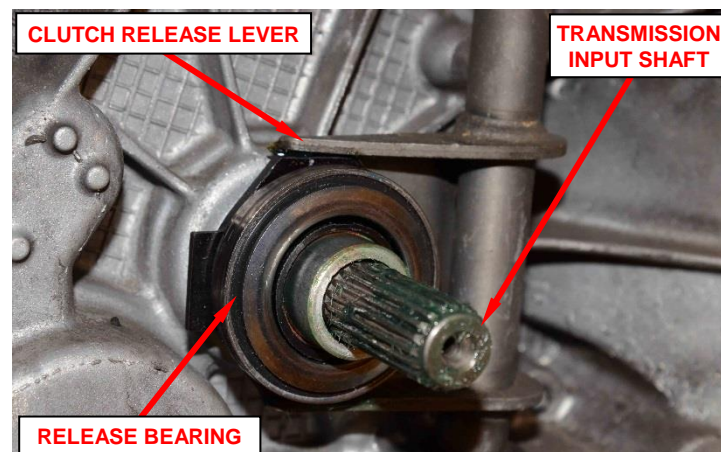

Figure 68 – New Clutch Release Bearing
82. Install the **NEW** release bearing and secure to the release fork (Figure 68).